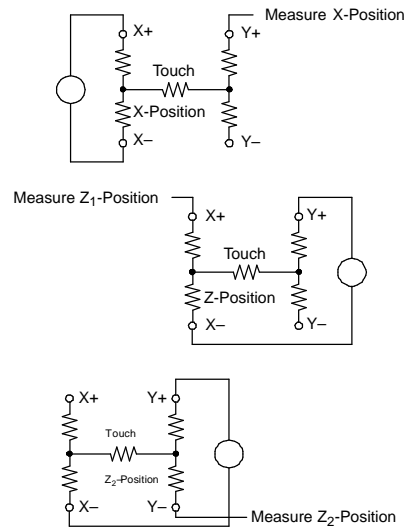

Figure 41. Pressure Measurement
Measuring touch pressure (Z) can also be done with the TSC2302. To determine pen or finger touch, the pressure of the *touch* needs to be determined. Generally, it is not necessary to have very high performance for this test, therefore, the 8-bit resolution mode is recommended (however, calculations are shown with the 12-bit resolution mode). There are several different ways of performing this measurement. The TSC2302 supports two methods. The first method requires knowing the X-plate resistance, measurement of the X-position, and two additional cross panel measurements (Z₂ and Z₁) of the touch screen (see Figure 41). Using Equation 1 calculates the touch resistance: